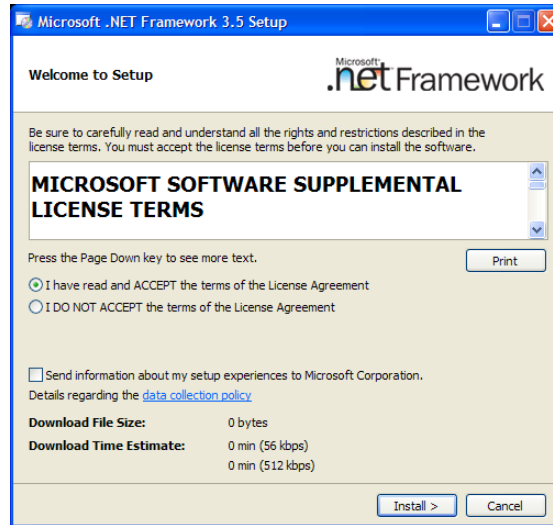

Figure 3.8 – License Agreement (New v2.0 Screenshot needed?)
2. Click the **I Agree** radio button when the License Agreement appears (see Figure 3.8).